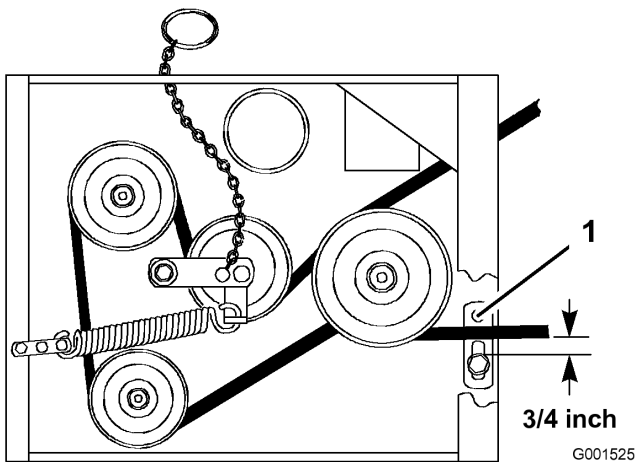

Figure 51
13. Check the belt guide under the engine frame for proper adjustment (Figure 51).
Note: The distance between the belt guide and the mower belt should be 3/4 inch (19 mm) when you engage the mower belt (Figure 51). Adjust the mower belt as necessary. The disengaged belt should not drag or fall off the pulley when the guides are properly adjusted.